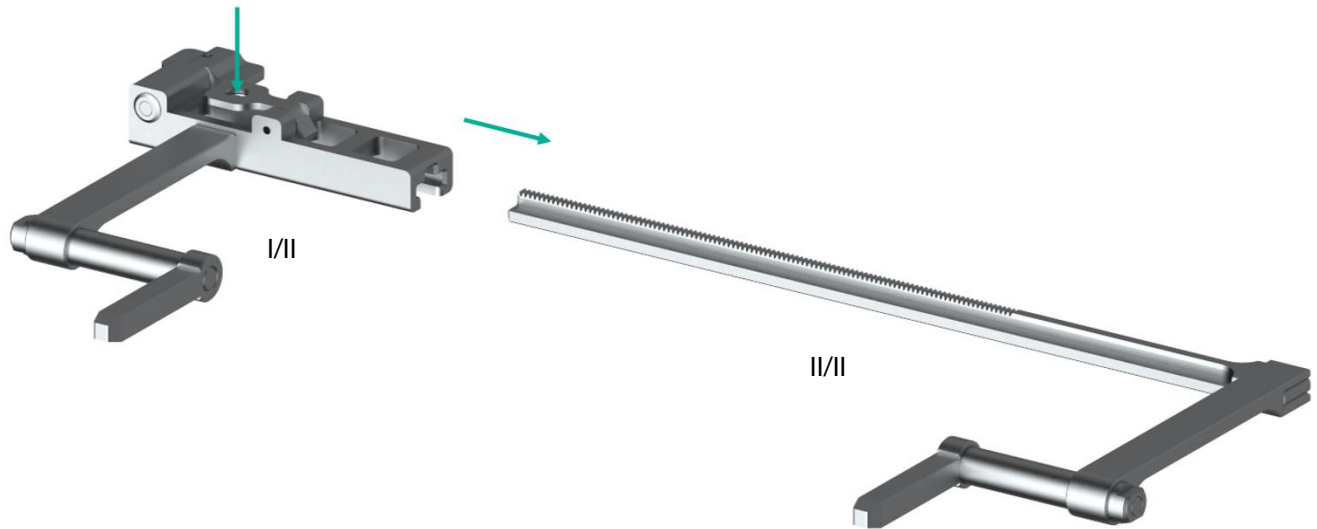

Figure 3: Mounting the Prima Frame
- To mount the Prima Frame, the two parts (I/II and II/II) have to be pushed into each other. The release latch must be held down (see Figure 3).